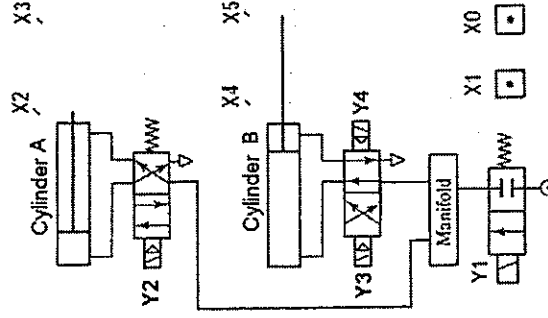

Figure 4: Pneumatic circuit.
- 3(a) An automation system has the following PLC controlled pneumatic circuit shown in Figure 4.